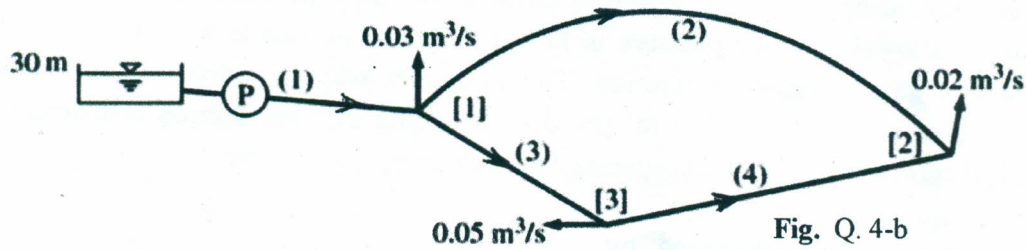

Fig. Q. 4-b
b) The shown network (Fig. Q. 4-b) consists of 4 pipes and 3 nodes. A source pump and one reservoir supply the network. The pump characteristics and pipes data are tabulated below. Neglecting local losses, do the following tasks: